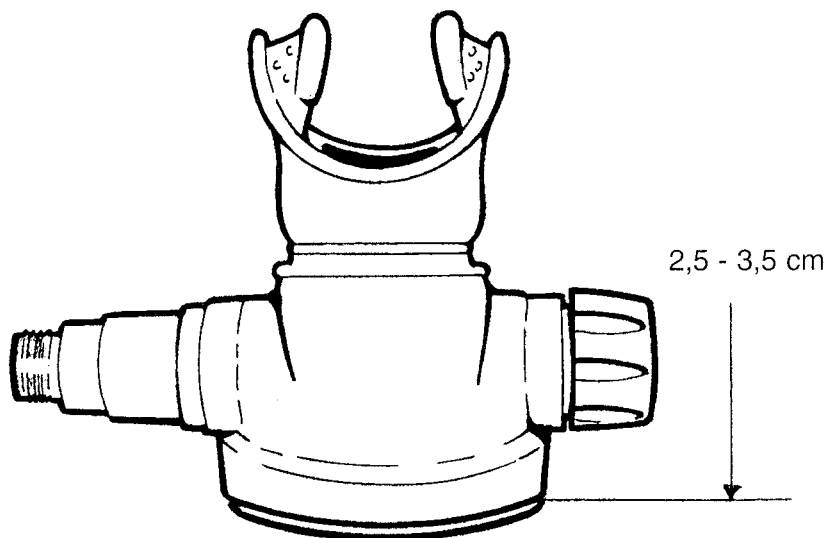

FIG. 9
- b. When the water level, measured on the mouthpiece fitting with reference to the point indicated in the diagram (FIG.9), falls between the "cracking" values indicated in Table A, the air must start to flow. (see Tab. A)
SECOND STAGE MODEL FURY ADJ	POINT OF REFERENCE WHERE STARTS THE 2 ND STAGE CASE (32) (Fig. 9)